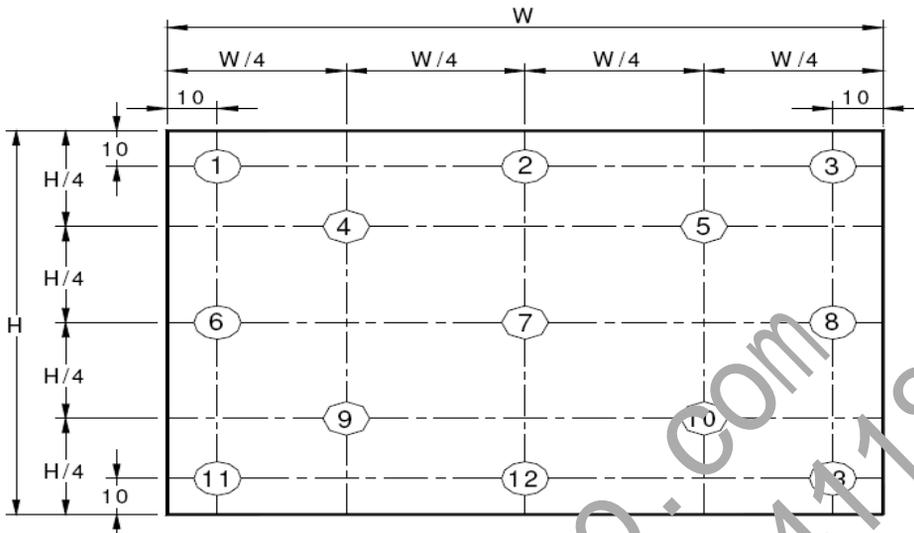

Figure 9. Uniformity Measurement Locations (13 points)
4. The White luminance uniformity on LCD surface is then expressed as :  $\Delta Y = \text{Minimum Luminance of 5(or 13) points} / \text{Maximum Luminance of 5(or 13) points}$ . (see Figure 8 and Figure 9).
The White luminance uniformity on LCD surface is then expressed as :  $\Delta Y5$  = Minimum Luminance of five points / Maximum Luminance of five points (see Figure 8),  $\Delta Y13$  = Minimum Luminance of 13 points / Maximum Luminance of 13 points (see Figure 9).